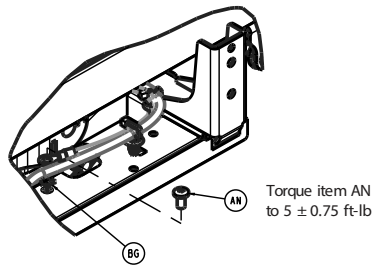

Figure 23 – Removing the cable
14. Using a T27 Torx driver, remove the screw (AN) and washer (BG) that secure the ground wire to the Fowler and the litter (Figure 23). Save the screw and washer.